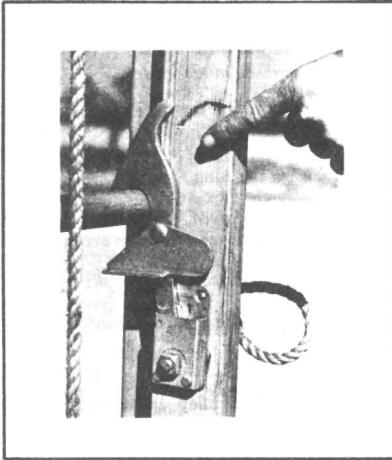

FIGURE 17.
**10.02** One type of lock with which standard extension ladders are equipped is shown in Figure 17.